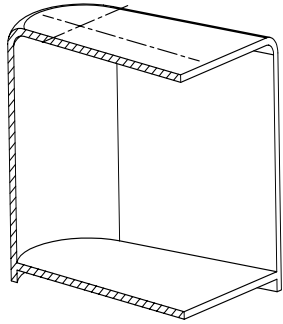

fig. 1
- 1. Determine centre of pedestal position at the mounting point on the boat super-structure. Fig 1